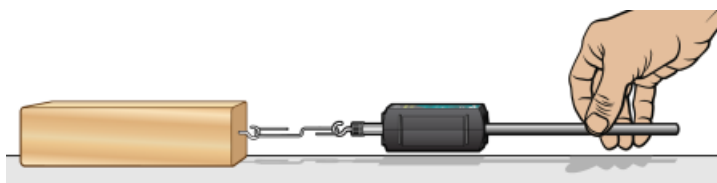

Figure 1
- a. Lay the Force Sensor on the tabletop in the position shown in Figure 1.